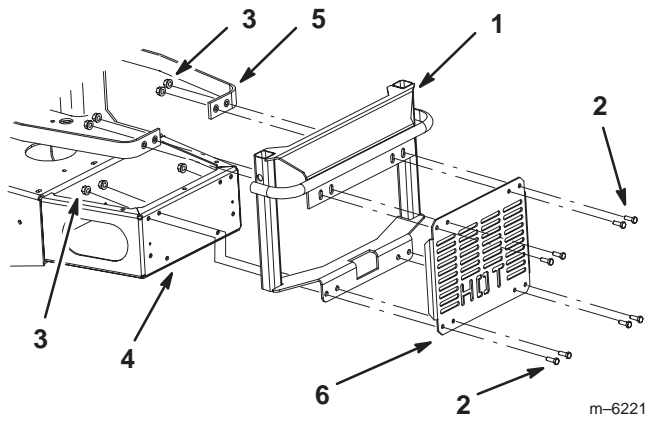
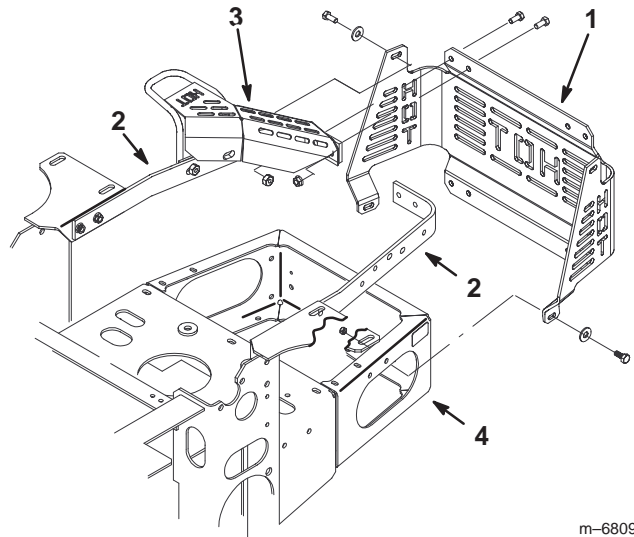

Figure 3
Figure 4
Note: Determine if machine is equipped with a back mount or back and side mount heat shield. If machine is equipped with a back mount heat shield (Fig. 3), use steps 1 thru 3. If machine has a back and side mount heat shield (Fig. 4), proceed to step 4.
2. Position the bagger bracket behind the engine guard straps and rear bumper (Fig. 3).
3. Install the bagger bracket and rear heat shield to the engine guard straps and rear bumper with 8 bolts (5/16 x 1 inch) and 8 flange nuts (5/16 inch) (Fig. 3).
4. Remove the 8 bolts and nuts securing the rear of the heat shield to the engine straps and rear bumper (Fig. 4). Discard the bolts and nuts.
5. Remove the 4 bolts, washers and nuts securing the sides of the heat shield to the engine straps, tailpipe guard and bumper. Retain the heat shield and these bolts, washers and nuts (Fig. 4).